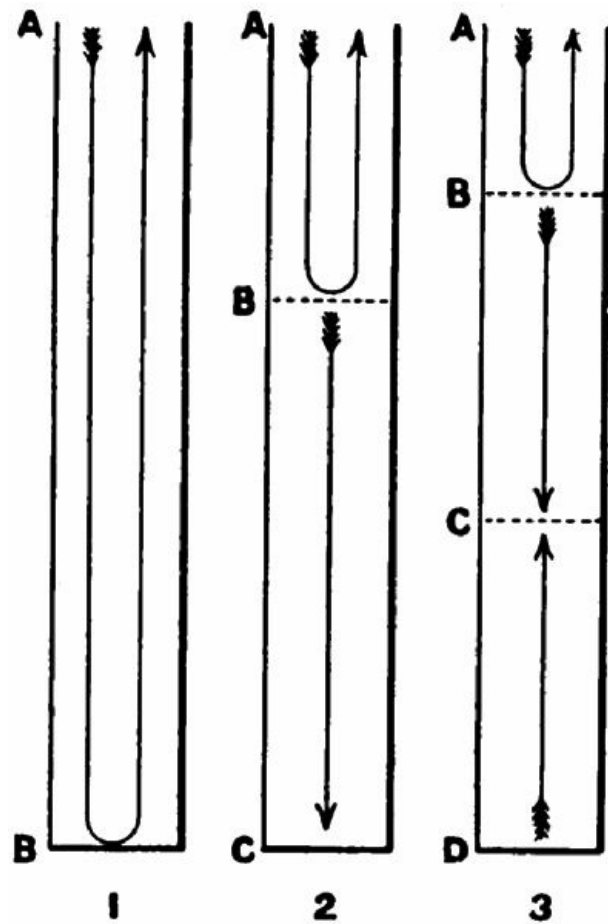

FIG 136.—Showing how the harmonics of a "stopped" pipe are formed.
In Fig. 136, *l* is a pipe, closed at the bottom and open at the top. A tuning-fork of the same note as the pipe is struck and held over it so that the prongs vibrate upwards and downwards. At the commencement of an outward movement of the prongs the air in front of them is *compressed*. This impulse, imparted to the air in the pipe, runs down the column, strikes the bottom, and returns. Just as it reaches the top the prong is beginning to move inwards, causing a *rarefaction*
We must now put on our thinking-caps and try to understand how this comes about. First, let us note that the vibration of a body (in this case a column of air) means a motion from a point of rest to a point of rest, or from node to node. In the air-column in Fig. 136, 1, there is only one point of rest for an impulse—namely, at the bottom of the pipe. So that to pass from node to node the impulse must pass up the pipe and down again. The distance from node to node in a vibrating body is called a *ventral segment*. Remember this term. Therefore the pipe represents a semi-ventral segment when the fundamental note is sounding.
When the first overtone is sounded the column divides itself into two vibrating parts. Where will the node between them be? We might naturally say, "Half-way up." But this cannot be so; for if the node were so situated, an impulse going down the pipe would only have to travel to the bottom to find another node, while an impulse going up would have to travel to the top and back again—that is, go twice as far. So the node forms itself *one-third* of the distance down the pipe. From B to A (Fig. 136, 2) and back is now equal to from B to C. When the second overtone is blown (Fig. 136, 3) a third node forms. The pipe is now divided into *five* semi-ventral segments. And with each succeeding overtone another node and ventral segment are added.
A pipe open at both ends is capable of emitting a note. But we shall find, if we experiment, that the note of a stopped pipe is an octave lower than that of an open pipe of equal length. This is explained by Fig. 137, 1. The air-column in the pipe (of the same length as that in Fig. 136) divides itself, when an end is blown across, into two equal portions at the node B, the natural point to obtain equilibrium. A pulse will pass from A or A1 to B and back again in half the time required to pass from A to B and back in Fig. 136, 1; therefore the note is an octave higher.
- [29] It is obvious that in Fig. 136, 2, a pulse will pass from A to B and back in one-third the time required for it to pass from A to B and back in Fig. 136, 1.